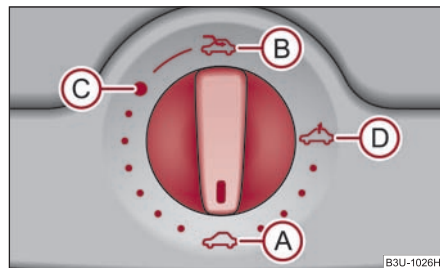

Fig. 45 Control dial for the power sliding/tilting roof
The sliding/tilting roof is operated by means of the control dial ⇒ fig. 45 and only functions when the ignition is switched on. The control dial has a number of positions.
- Turn the switch to position **C** ⇒ fig. 45.
- Turn the switch to position **A** ⇒ fig. 45.
The sliding/tilting roof is fitted with a force limiter. The sliding/tilting roof stops and moves back several centimetres when it cannot be closed because there is something in the way (e.g. ice). You can close the sliding/tilting roof completely without force limiter by pressing the switch to the **A** position ⇒ fig. 45 at the front or rear for as long as it takes for the sliding/tilting roof to close completely ⇒ ⚠.
It is necessary after each emergency operation (using Allen key) to move the sliding/tilting roof into the basic position. Here you have to turn the control dial forward to the switch position  ⇒ page 49, fig. 45 and press for about 10 seconds. ■